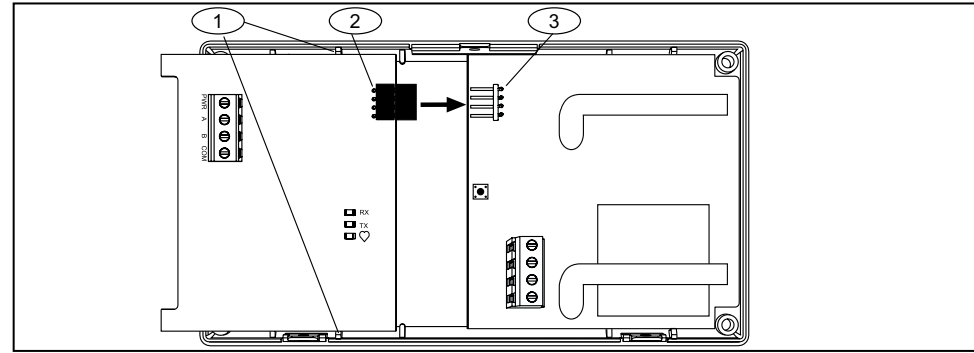

Figure 3.2: Installing the B820 in the housing
5. Insert the B820 module into the EN4200/EE4200H-HSG housing, connecting the B820's serial data port to the EN4200/EE4200H-HSG's serial data port. Refer to *Figure 3.2*.